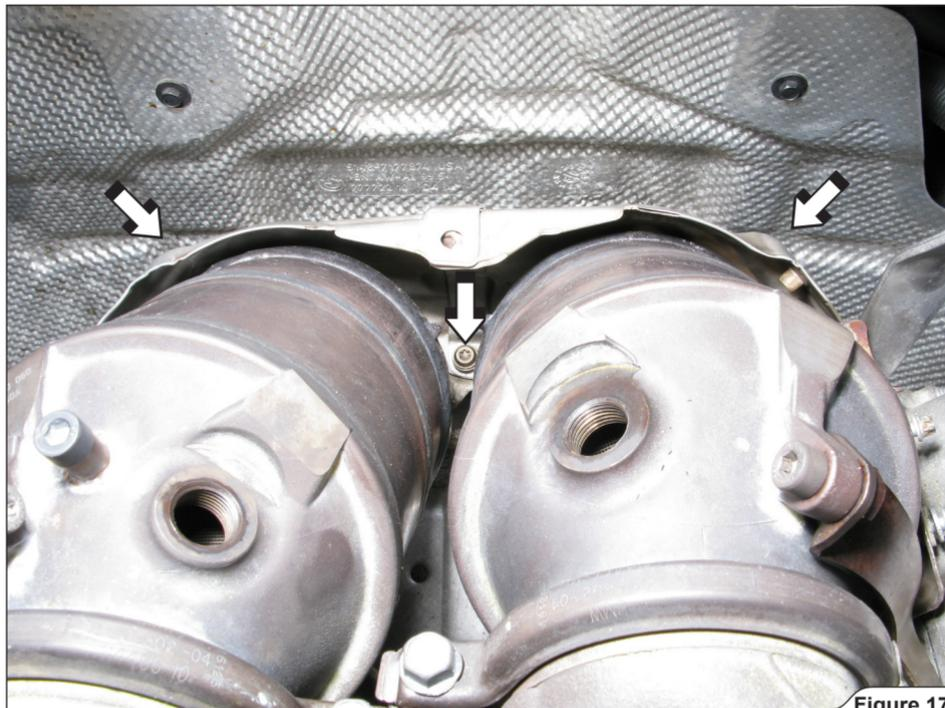

Figure 17
17. For optional Down Pipes only: unscrew marked bolts on the lower heat shield. (Figure 17).